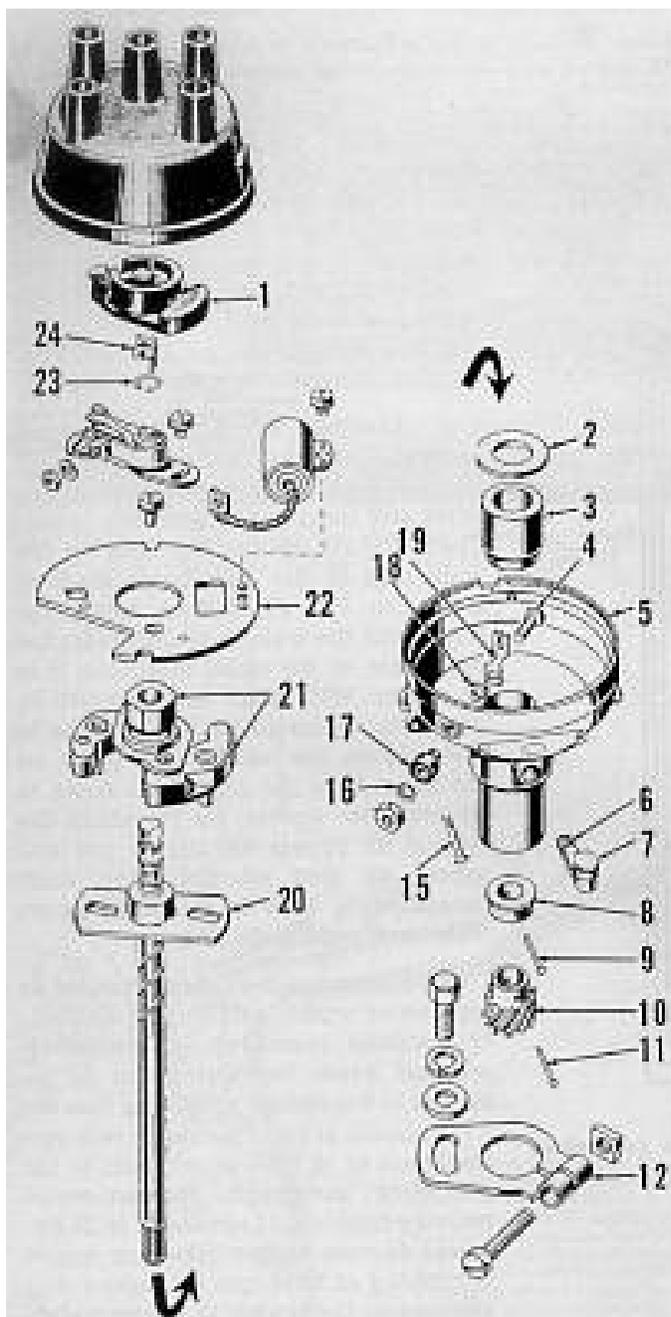

Fig. F046 - Angle-mounted distributor used on 8N tractors after serial 263843.
58. After tractor serial 263843, model 8N tractors are equipped with angle mounted Ford distributor 8N12127A or B. Refer to Fig. F046. The unit is driven by a replaceable gear on the front end of the camshaft and is mounted on top of the timing gear cover. Spark timing at speeds above 400 rpm is controlled by a centrifugal governor built into the distributor. Recommended contact gap is .025. Breaker arm spring tension should be 17-20 ounces. Governor advance curve is tabulated below: